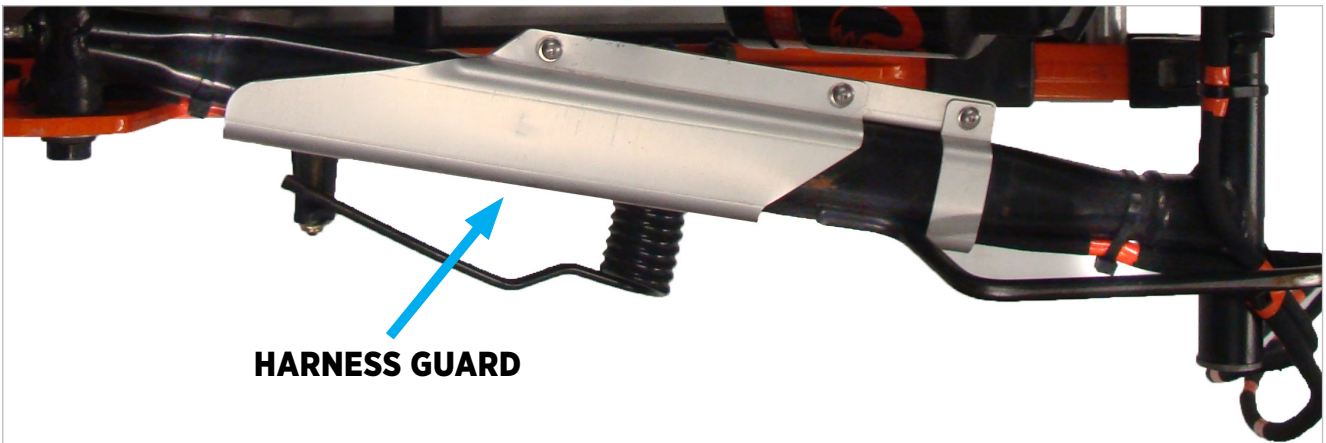

Figure 14
2. Install the front torque arm harness guard over the front arm and the harness (Figure 14). Use the three supplied stainless steel bolts, three washers, and three nylock nuts. Ensure the heat shrink tubing (the smooth section of tubing that protects the wiring from the edges of the guard) is aligned with each end of the guard. Tighten the bolts to 2.5 N·m (22.1 in-lb).
3. Secure the wiring with four cable ties: one cable tie around the body cap (Figure 14) and three cable ties around the cross tube (Figure 16).